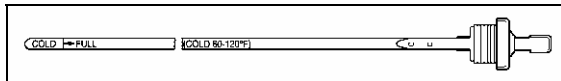

FIGURE 7: COLD CHECK
4. Insert the dipstick into the tube and then remove, checking the oil level reading (Fig. 7). Repeat the check procedure to verify the reading. If the oil reading is within the "Cold Run" band, the level is satisfactory for operating the transmission until the oil is hot enough to perform a "Hot Run" check. If the oil reading is not within the "Cold Run" band, add or drain oil as necessary to bring the level within the "Cold Run" band.